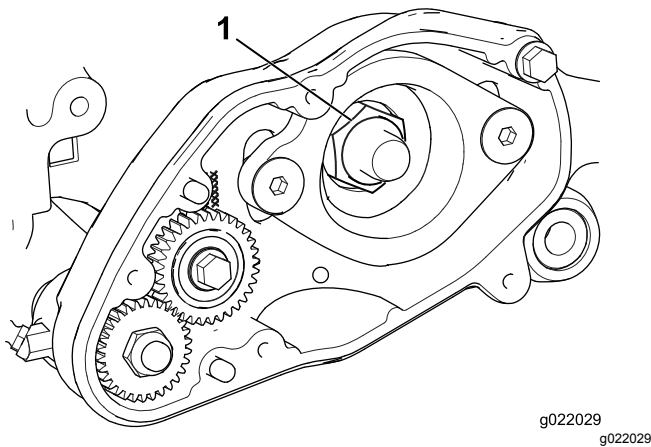

Figure 10
1. Remove the reel-bearing locknut from the reel shaft (Figure 10).